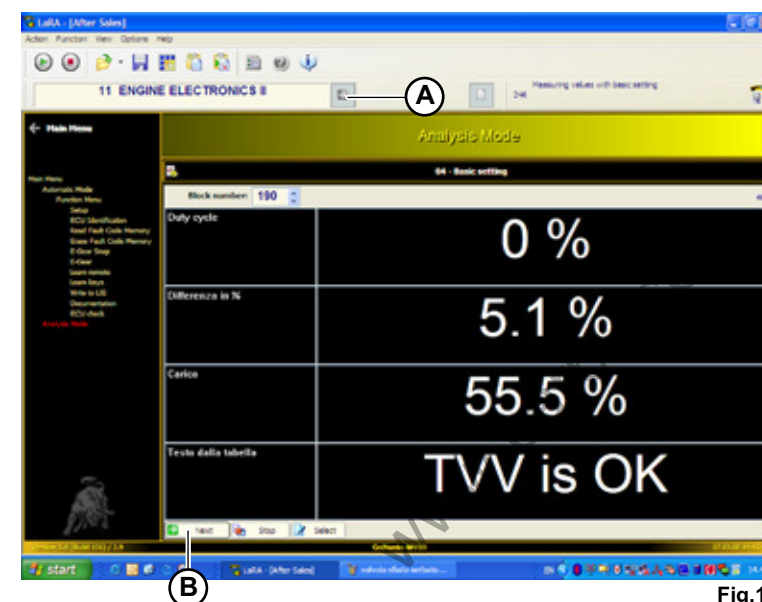

Fig.19
- Select routine 190 inside the block number (A-Fig.19).
- Start the connection () and press the start push-button (B-Fig.19).